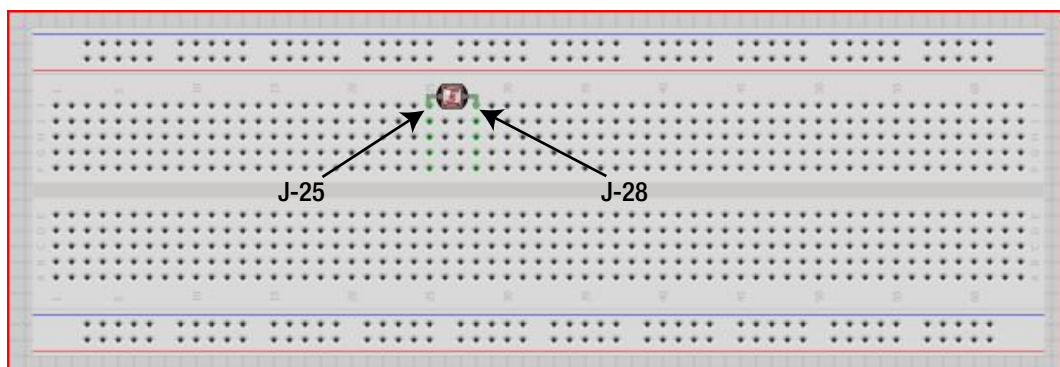

Figure 27-2. Attach photoresistor to solderless bread board
1. First attach the photoresistor to the solderless breadboard at positions J-25 and J-28. Figure 27-2 illustrates this process.